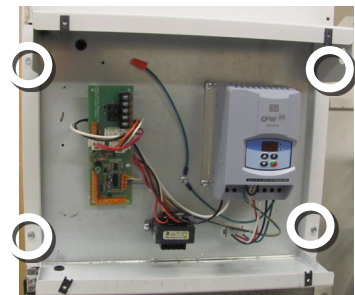

Fig. 7
7. Using 5/16" nut driver, secure external box to air handler in place of the large door, using screws provided in all four corner holes. (Fig. 7)